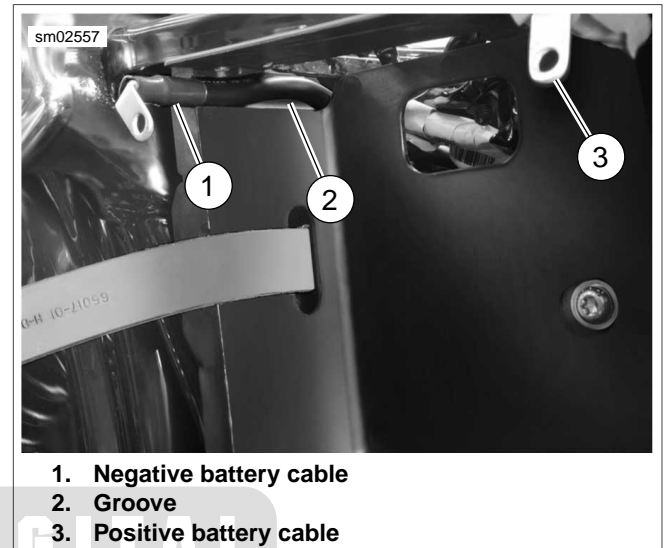

Figure 7-18. Battery Cables
1. Guide battery cables through holes in rear of battery tray (3) and place tray in position.
2. See Figure 7-18. Place battery cables in recesses at upper corners of battery tray.
4. See Figure 7-18. Route negative battery cable toward left side of motorcycle and then down to transmission ground stud.